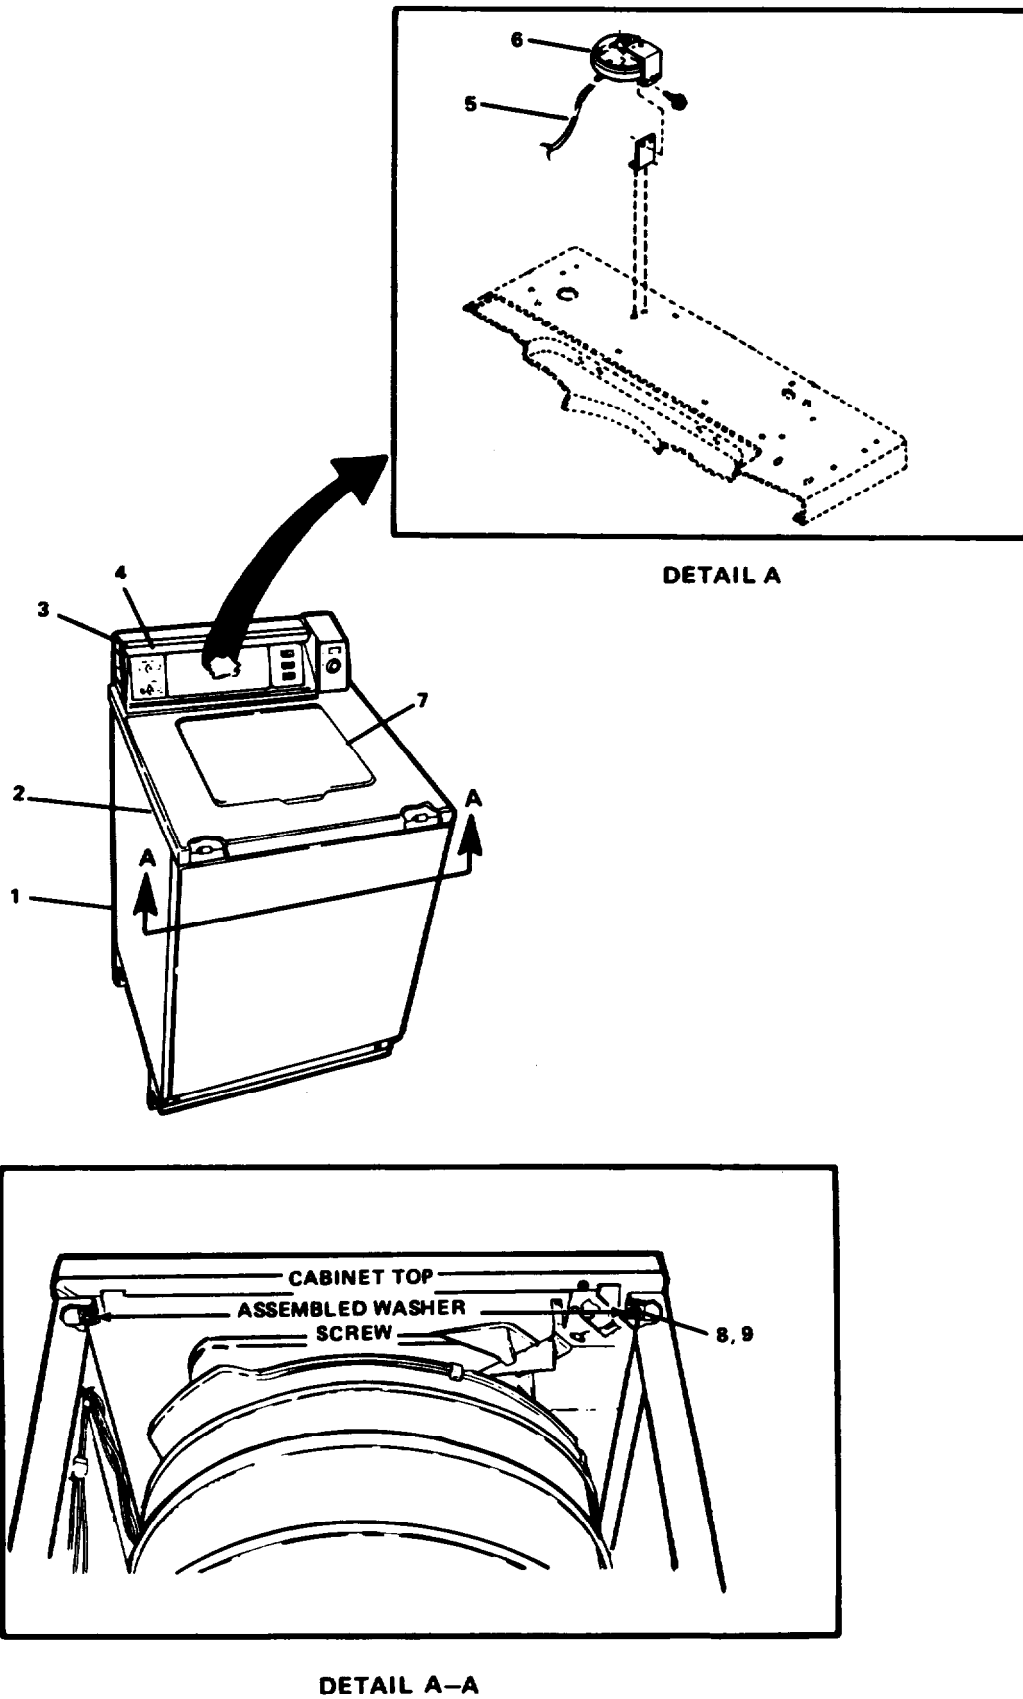

FIGURE 2-68. Washer Machine Cabinet Top Removal.
- b. Hinge open washer machine (1, FIGURE 2-68) cabinet top (2) as follows:
- (1) With front panel removed, remove assembled washer screw (8) and speed nut (9).
- (2) Tape loading door (7) closed and lift cabinet top to a vertical position.